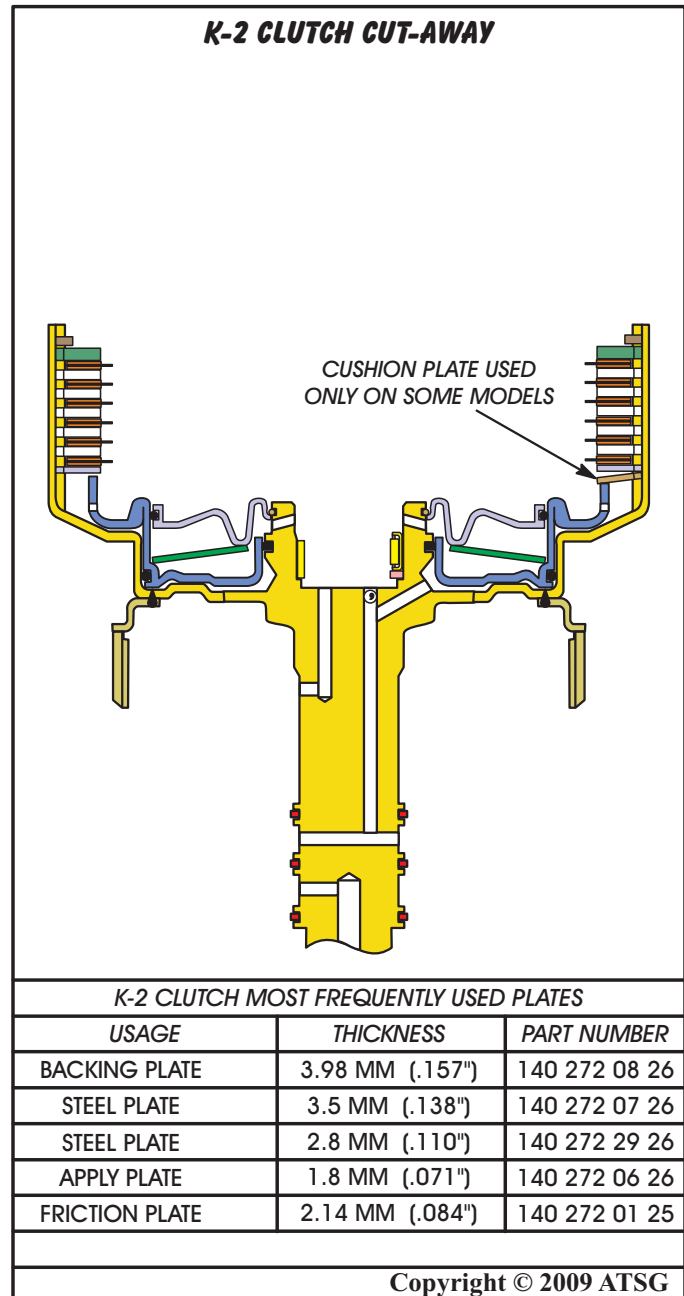

Figure 111
25. We have provided you with frequently used part numbers for the clutches in Figure 111. Keep in mind that part numbers can change without notice.